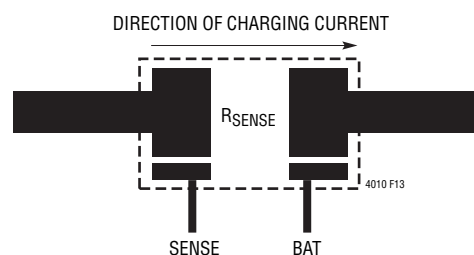

Figure 13. Kelvin Sensing of Charge Current
12. For best current programming accuracy, provide a Kelvin connection from R_{SENSE} to SENSE and BAT. See Figure 13 for an example.